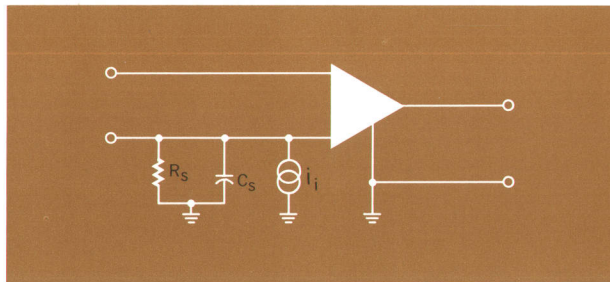

Fig. 4. Sources of additional offset error are due to injected current,  $i_i$ , source resistance and capacitance.
**AC Error Sources.** In the case of a wideband system, such as a high speed digital system, there are error sources in addition to those in the lower frequency case. Additional 'offset' errors are due to noise, Fig. 4, which should be specified as a voltage and current RTI and a voltage RTO, but are also a function of the bandwidth. Excess noise in the low frequency region, due primarily to the characteristic semiconductor noise that is inverse to frequency, distorts the otherwise uniform spectrum of the predominantly thermal noise. AC common mode signals produce an output signal in the same manner as the dc common mode case, except that stray capacitances are usually causative elements rather than stray resistances. Another mechanism, which may cause noise in electronic instrumentation not properly shielded or grounded, is 'injected' current such as ac power line leakage into circuits with floating power supplies. This results in a common mode current circulating in a manner analogous to a system with poor CMR.